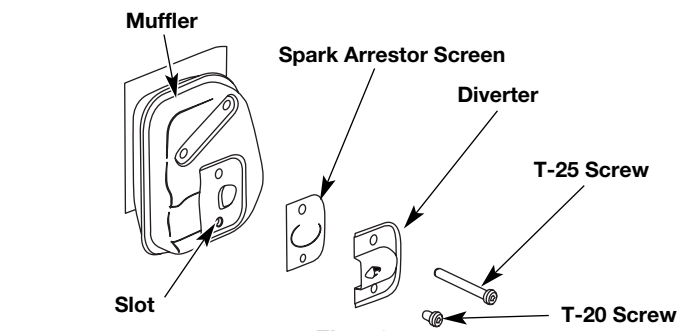

Fig. 40
2. With a flat blade screwdriver or Torx T-20 bit and a T-25 bit, remove the screws attaching the spark arrester diverter to the muffler (Fig. 40).